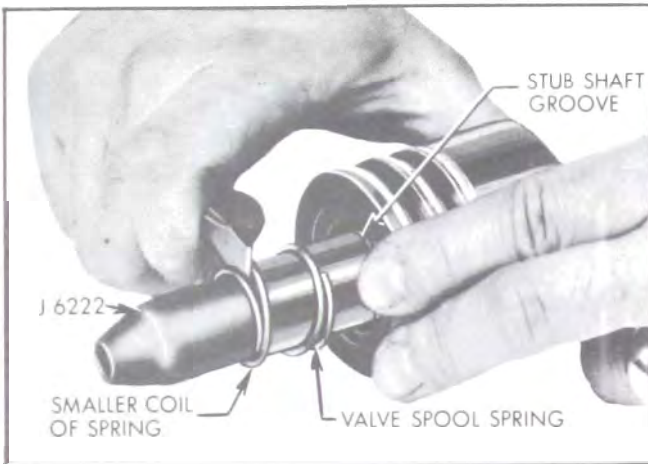

Figure 8-53—Installing Valve Spool Spring
5. Place seal protector J-6222 over stub shaft and slide valve spool spring over stub shaft with smaller diameter coil going over end of shaft last. See Figure 8-53. Work spring on shaft with a screw driver until small coil of spring is seated in the stub shaft groove. Be careful not to damage surface of shaft.